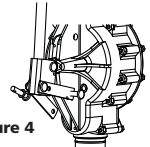

Figure 4
10. Assemble the hose and suction tubes as required. See figure 4.